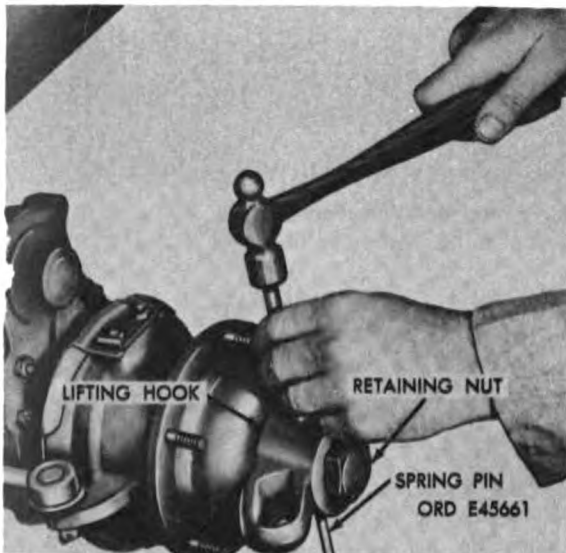

Figure 2-58. Removing spring pin securing hub retainer nut.
- (4) Rotate lifting hook until end of spring pin, which secures hub retainer nut, is aligned with pipe plug hole in lifting hook; remove spring pin as shown in figure 2-58, and remove hub retainer nut and lifting hook (fig. 2-59); remove preformed packing from hub retainer nut.